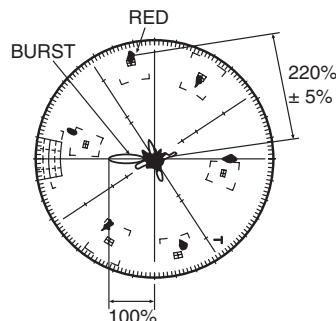

Fig. 6-5-1 For VK-S454R
6-5-3 Chroma gain adjustment (Figs. 6-5-1, 6-5-2, 6-5-3)
- 3) When using a vectorscope (Figs. 6-5-1, 6-5-2):